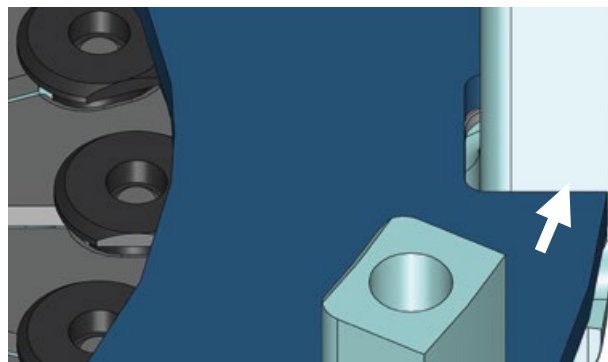

Figure 3
- Carbon plate drive face wear should also be checked using feeler gauges. With the carbon floater plates in the clutch cover, measure the gap between the drive face and the clutch cover leg, (figure 3).